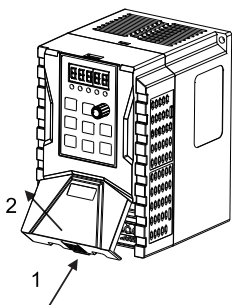

Figure3-6 Terminal cover's disassembly
A. Terminal cover's disassembly, showing as Figure3-6, press the buckle position of terminal cover by direction 1 and disassemble it by direction 2.